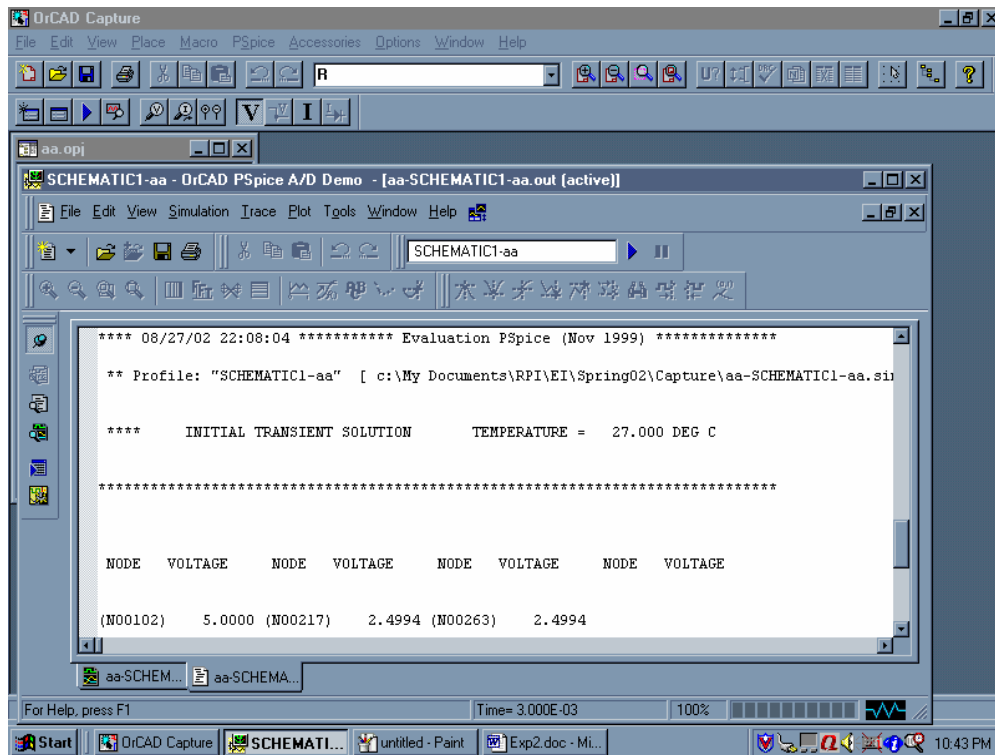

Figure B-6
- To get additional information about the exact value of your voltages, you can look in the output file. In the OrCAD/Pspice demo window (which displays the simulated 'scope traces'), choose *Output File* from the *View* menu. The display will switch to the text file containing the output. (See the figure B-6.)